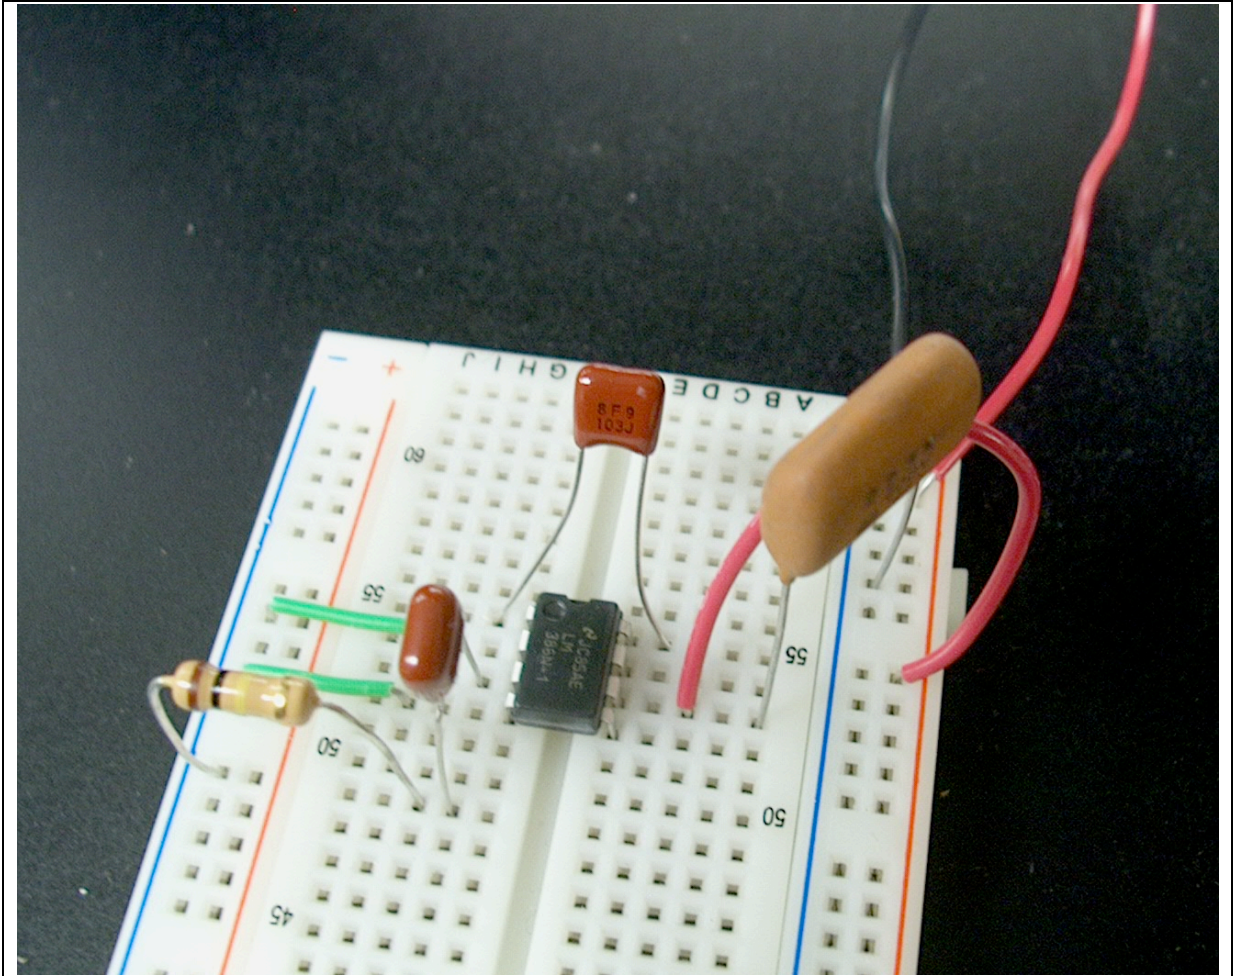

Figure A5.Steps 5 and 6 of the amplifier.
5. Connect the 0.01 μF capacitor from Pin 1 to Pin 8 of the IC, Figure A5.